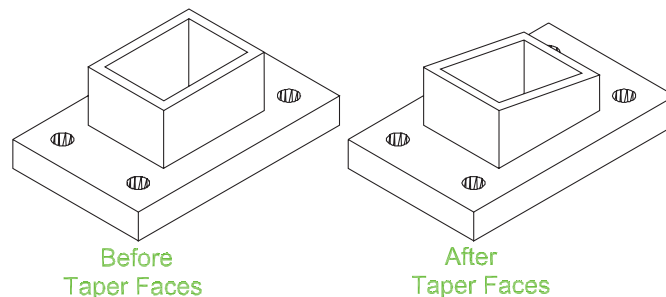

Fig. 18.10 Fifth example – **Taper faces** tool
Fifth example – **Taper faces** tool (Fig. 18.10)
1. Construct the 3D model as in the left-hand drawing of Fig. 18.10. Place in **ViewCube/Isometric**.
(Fig. 18.10).